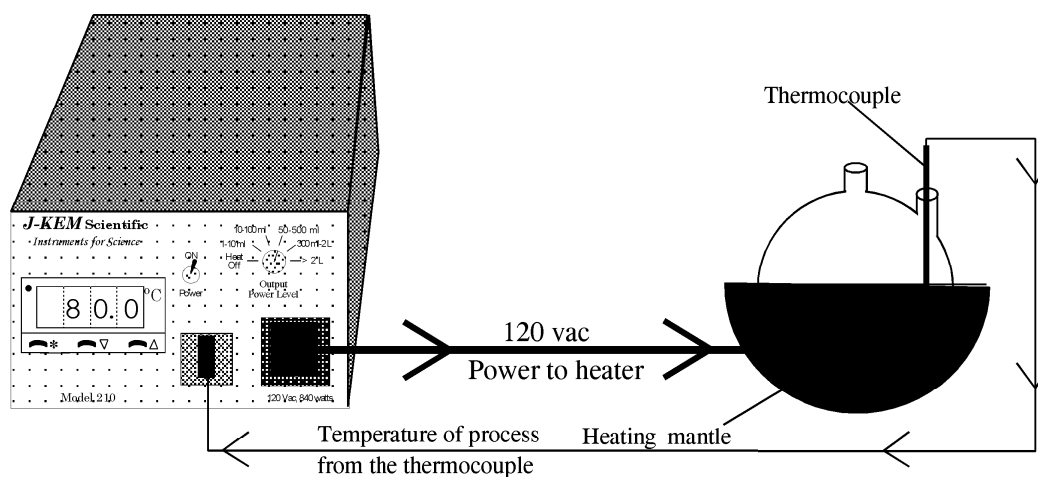

Figure 2
3.12 Do's and Don'ts When Using Your Controller. The controller, heater and thermocouple form a closed loop feedback system (see Fig. 2 in Section 4.1). When the controller is connected to a heater, the feedback loop should not be broken at any point.